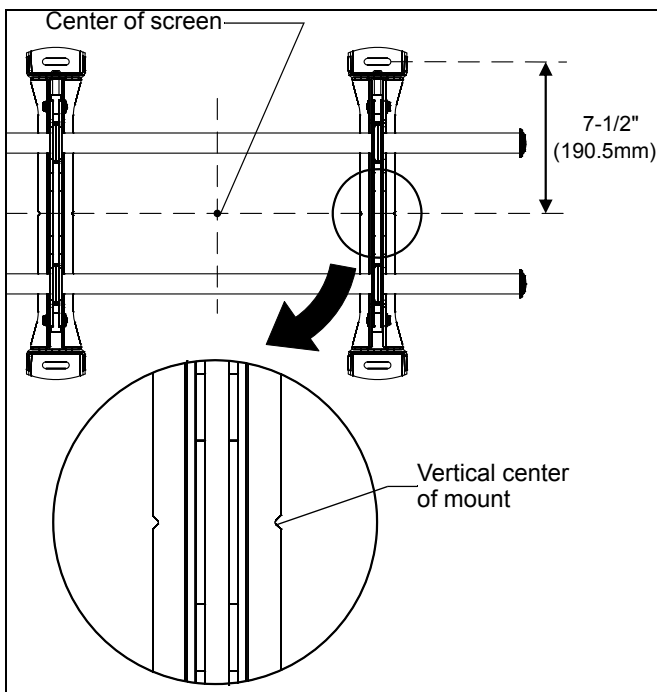

Figure 1
3. Line up the notches on mount (R) with center of screen marking to determine vertical center. (See Figure 1)